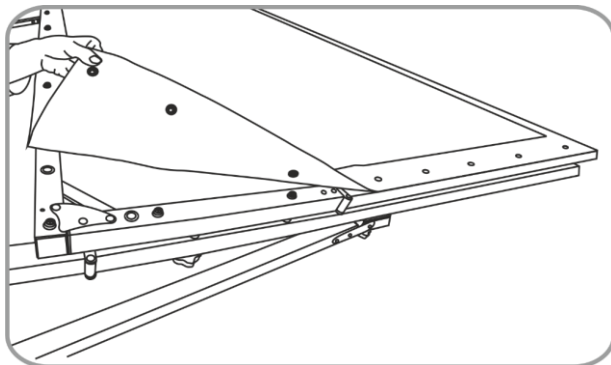
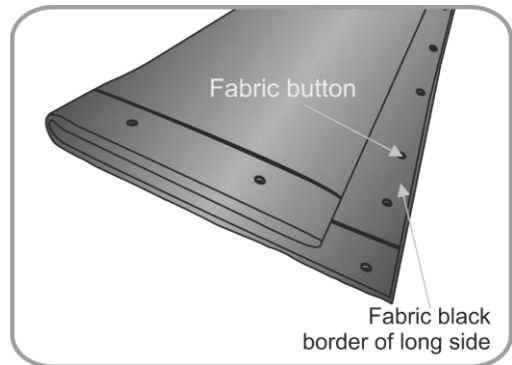
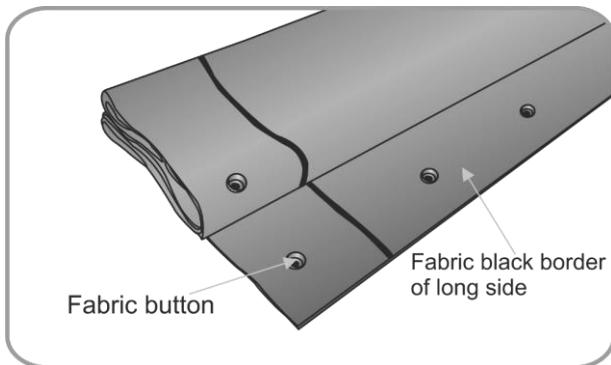
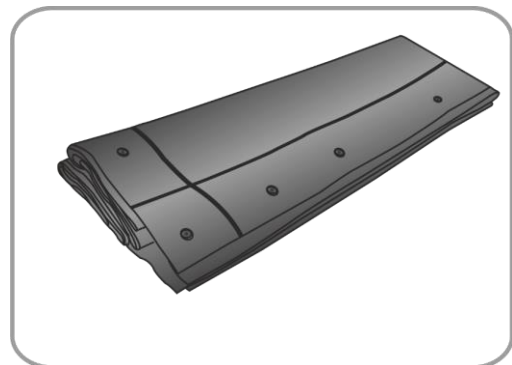

Fig. 15
Fig. 16
Fig. 17
Fig. 18
02) Take the fabric off the frame, by releasing the buttons (Fig. 15). Clean the fabric, if necessary. Double up the fabric along the short sides (Fig. 16) and double it up again (Fig. 17). The 100" fabric should be doubled up 3 times, while the 120" and 150" fabrics – 4 times. Double it up again (Fig. 18). Leave the black border uncovered, to prevent scratches. Do not perform this step unassisted. 2 technicians are required.